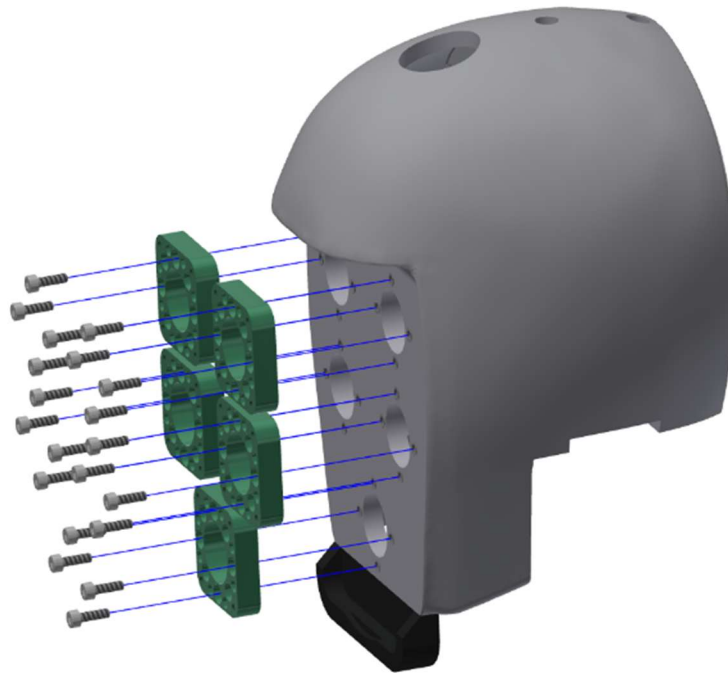

Figure 3-17. Face load cells
- 3.2.16 Remove the five face load cells by removing four M3 X 0.5 X 10 LG. SHCS per load cell (20 screws total) (Figure 3-17), and pull the face load cell wires through the hole in the face of the skull.